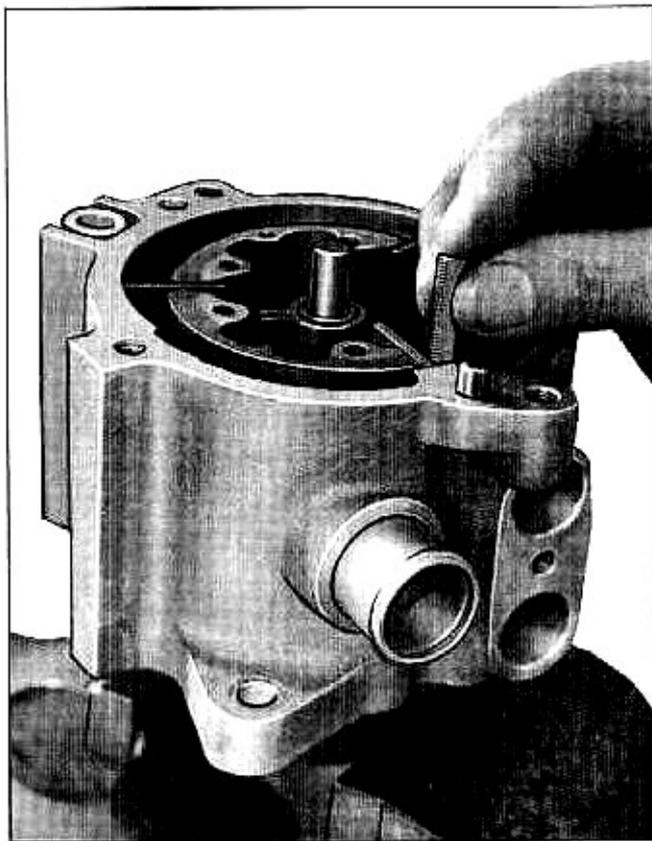
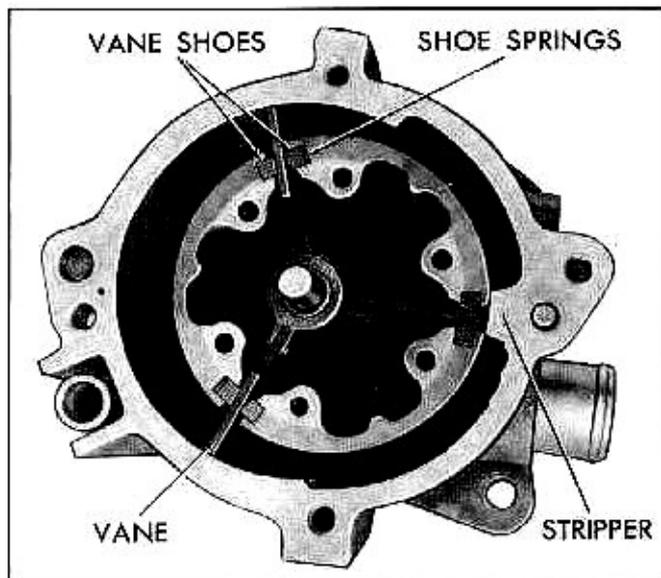

Fig. 17—Installing Vane Shoes
Fig. 19—Vanes, Vane Shoes and Shoe Springs Installed
3. Position rotor with one vane slot at stripper (fig. 19), then support the housing in a vise by the drive hub and install the vanes (with rod) (fig. 18).
4. Install one carbon shoe on each side of every vane (fig. 17). Shoes must be installed with bearing surface against vane and with radiused point of contact toward O.D. of rotor (fig. 19).
NOTE: Figure 19 shows the air pump at this stage of assembly.